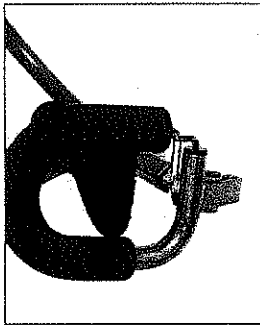

Figure 2
- Note that a 5 mm and a 6 mm Allen key is supplied with MEYWALK® 2000. This is located under the rear stop (see figure 2).